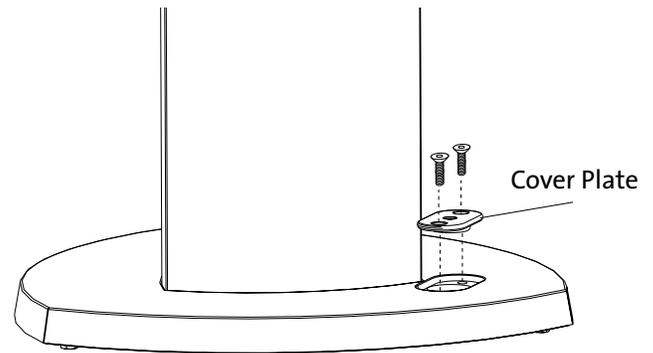

Figure 11. Remove cover plate from the pedestal base.
1. Use a 4 mm hex key to remove the two countersunk screws and cover plate from the pedestal base. See fig. 11.